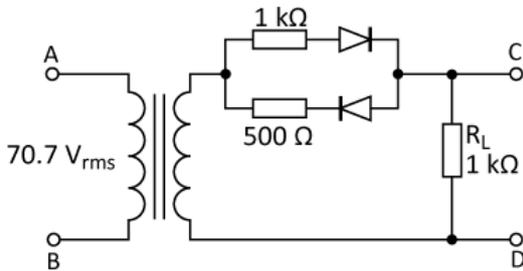

Fig. E4-2
2. In the circuit of Fig. E4-2 below, the supply applied to terminals A-B is shown to be $70.7\text{ V}_{\text{rms}}$. Sketch the waveform appearing at the output terminals C-D showing the peak values of voltage on each cycle. Assume the diodes are ideal.